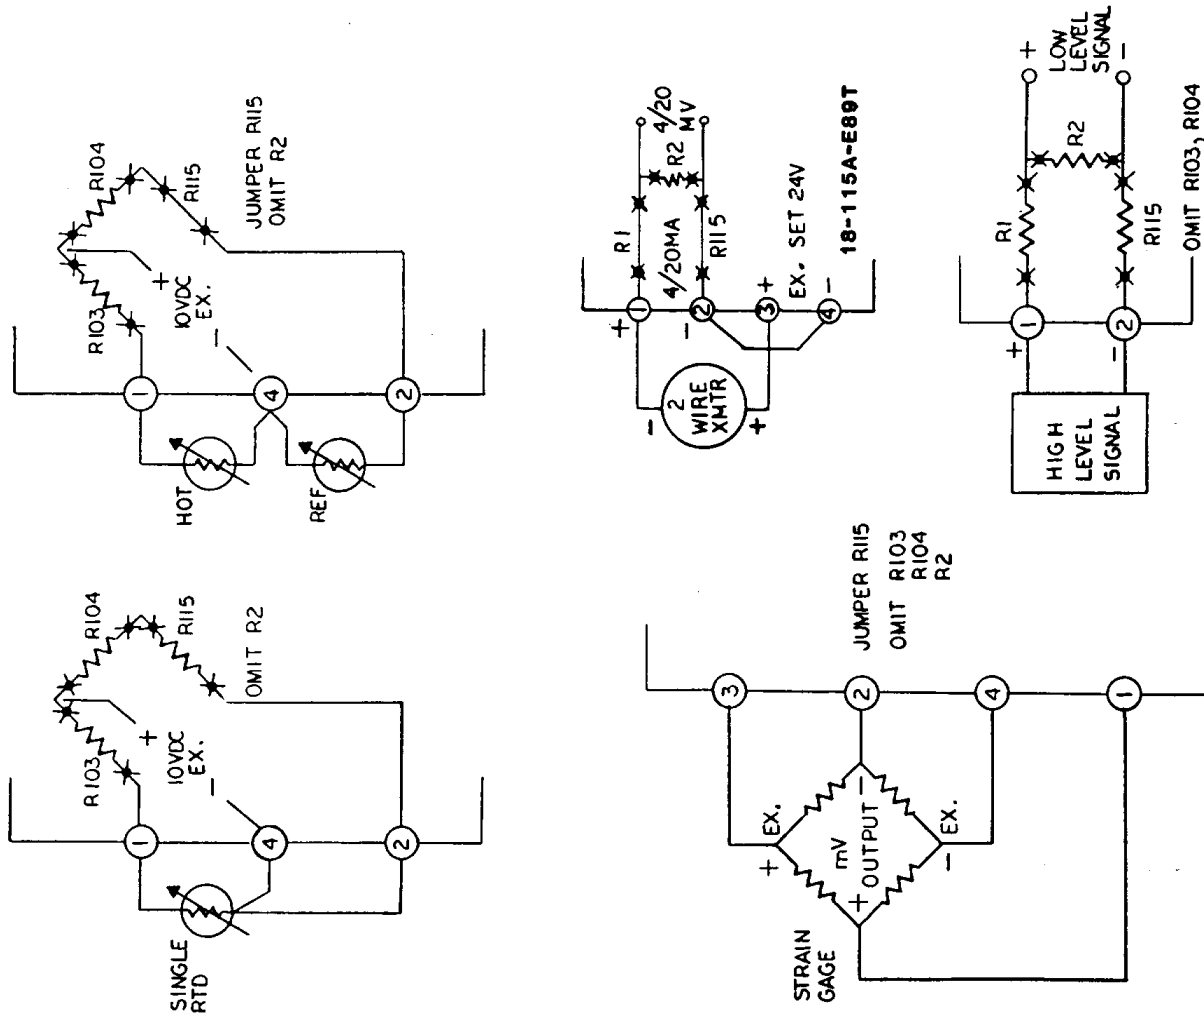

FIGURE 3-4 - EXTERNAL WIRING OF DIFFERENT TYPES OF INPUT SIGNALS
- 3.2 Connect line power to #8 (AC) and #9 (ACC) PWR terminals. Terminal #10 is wired to the case for line power ground (GD). Wire the thermocouple lead wires or the millivolt source to #1 (+) and #2 (-) input terminals. For units with reverse operation, the input lead wires have been reversed internally. For other types of input refer to FIG. 3.4 for input signal wiring. Output signal is obtained from terminals #5 (+) and #6 (-). Refer to FIG. 3.5 for typical wiring of input, output and line power.